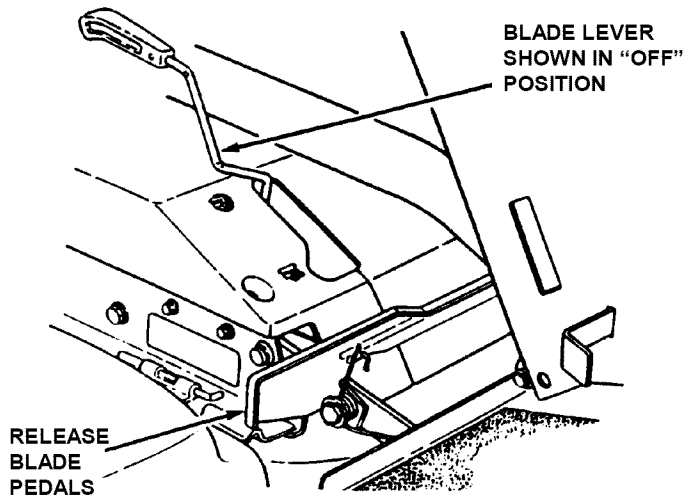
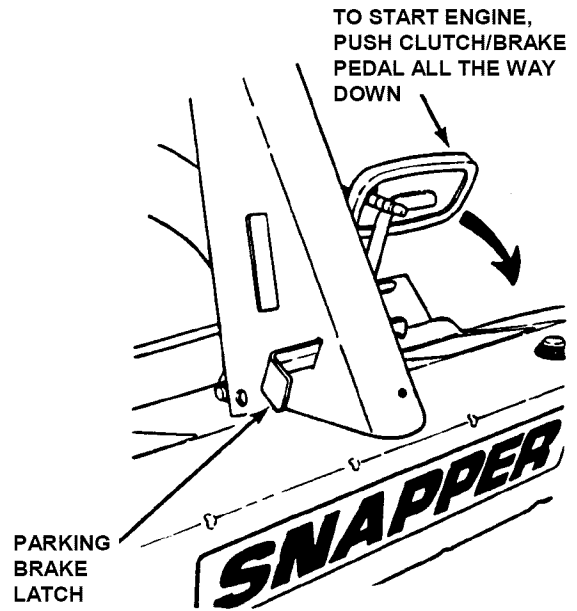
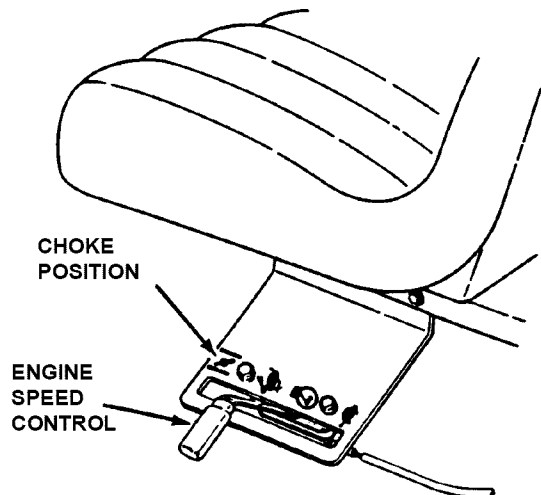
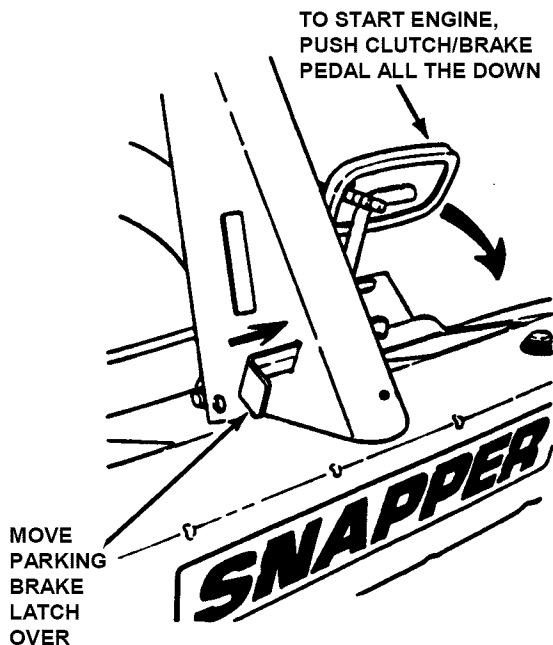

FIGURE 2.4
FIGURE 2.5
FIGURE 2.6
FIGURE 2.8
**IMPORTANT:** When the ignition key is turned to "START", the engine will turn over, but will not start unless the Clutch/Brake pedal is pressed all the way down, the Blade Lever is in the "Off" position (See Figure 2.5). The operator should be in the seat. Start engine as follows:
1. Move transmission shift lever to (N) Neutral position. **DO NOT** start engine with transmission shift lever in a drive position.
2. Make certain the Blade Lever is in the "Off" position. See Figure 2.4.
3. Press Clutch/Brake Pedal all the way down and hold while starting engine. See Figure 2.5.
5. Move engine speed control to the choke position to start a cold engine. See Figure 2.6.
**IMPORTANT:** When the ignition key is turned to "ON", and the recoil handle is pulled, the engine will turn over, but will not start unless the Clutch/Brake Pedal is pressed all the way down with Parking Brake engaged (See Figure 2.8) and the Blade Lever is in the "Off" position (See Figure 2.4). Start engine as follows:
1. Move transmission shift lever to (N) Neutral position. DO NOT start engine with transmission shift lever in a drive position.
5. Move engine speed control to the choke position to start a cold engine. See Figure 2.6
3. Press Clutch/Brake Pedal all the way down, move Parking Brake Latch over and release the Clutch/Brake Pedal to set Parking Brake. See Figure 2.8.